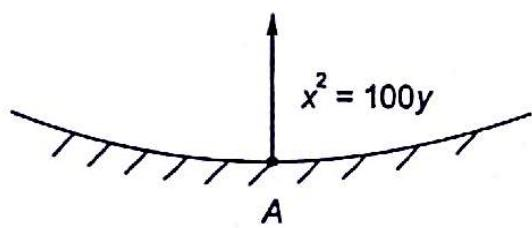

Fig. 11.15
11.3 A car travels along a depression in a road, the equation of depression is $x^2 = 100y$ speed of the car is constant and is equal to 10 m/s. What is acceleration of the car at the deepest point A (Fig. 11.15)?